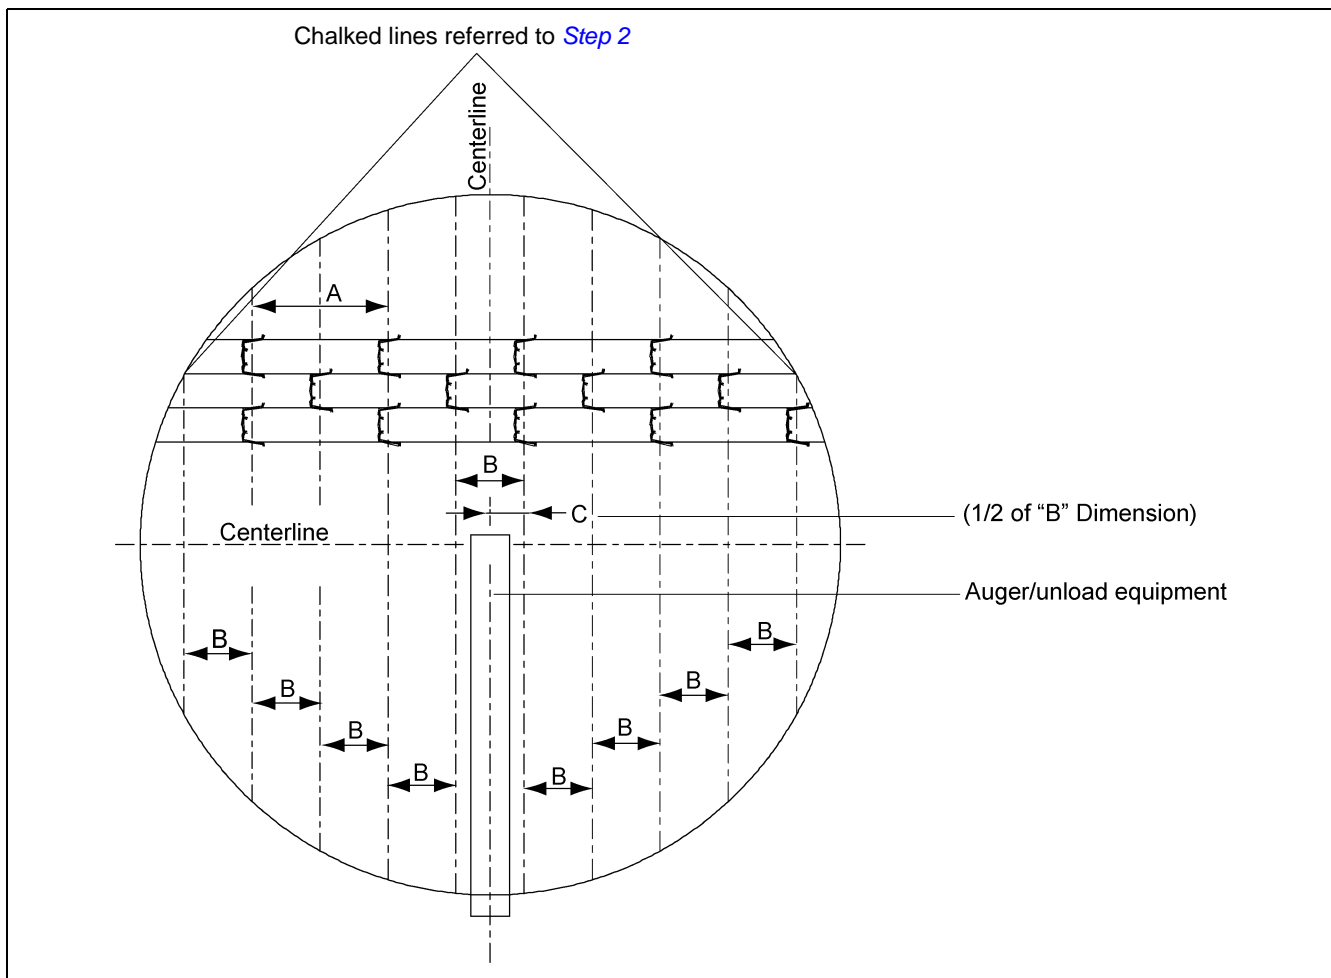

Figure 2B
Using the GSI recommended method for full floor installation should save construction time and eliminate the problem of improper installation which could invalidate your warranty. Note the following dimensions as shown in Figure 2B.
1. Layout centerlines of tank. Make sure one centerline is in line with the direction of the flooring planks while the other centerline is perpendicular with the flooring planks. See Figure 2B.
2. From the centerline that is perpendicular to the flooring planks, measure the distance of “C” Dimension and mark a chalk line. See Figure 2B.
3. From the line chalked in the previous step, measure over the distance of “B” Dimension and chalk another line. Repeat this procedure across the bin until reaching the wall in both directions. When completed, there should be a set of parallel lines (perpendicular to the floor planks) with “B” Dimension distance between each line. See Figure 2B.